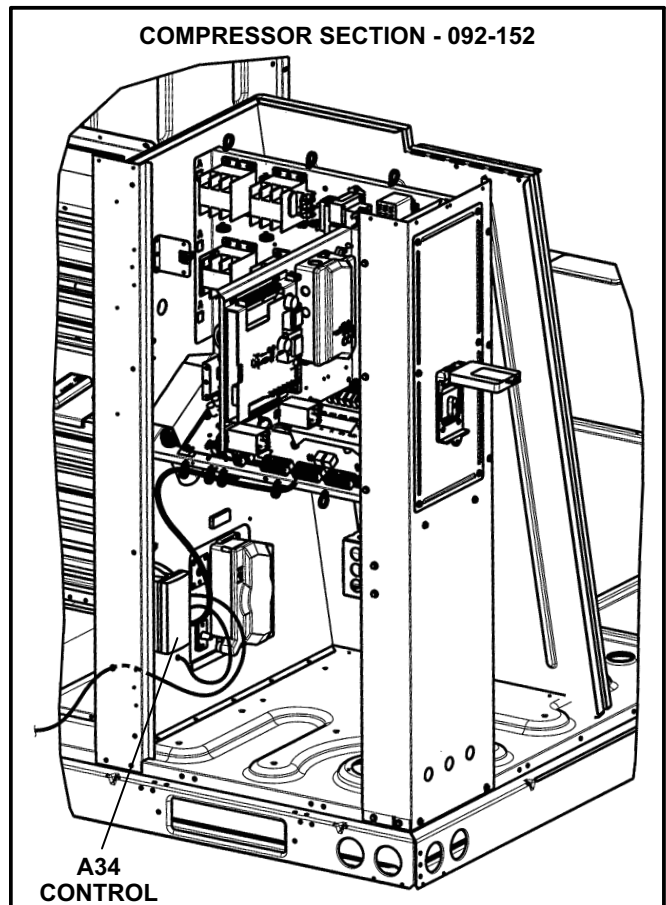
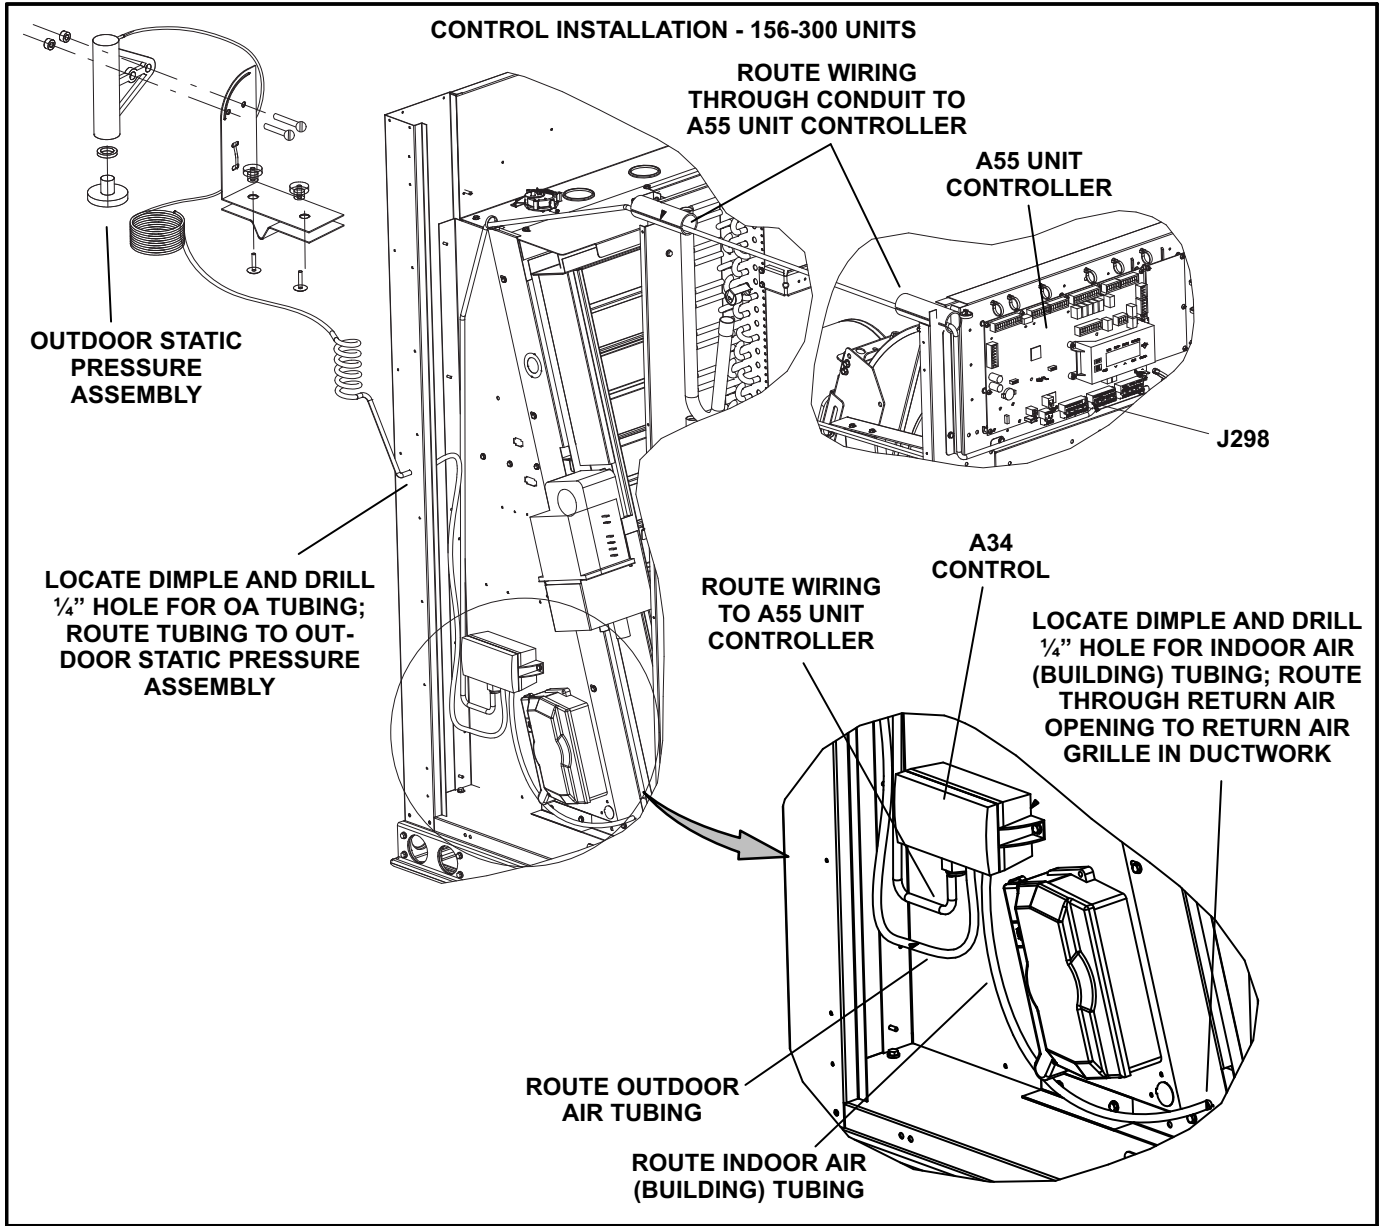

FIGURE 1
FIGURE 3
- 3- Install the A34 sensor as shown in figures 1 or 2 for 092-152 units and figure 3 for 156-300 units. Secure sensor with two #10 self drilling screws.
- 6- Route the other end of three-wire cable to the A55 Unit Controller J298. See figures 1 or 2 for 092-152 units and figure 3 for 156-300 units.
- 8- Attach outdoor air tubing to the A34 control (-) port and the indoor air (building) tubing to the (+) port. Drill $\frac{1}{4}$ " holes and route air tubing as shown in figures 1 or 2 for 092-152 units and figure 3 for 156-300 units.